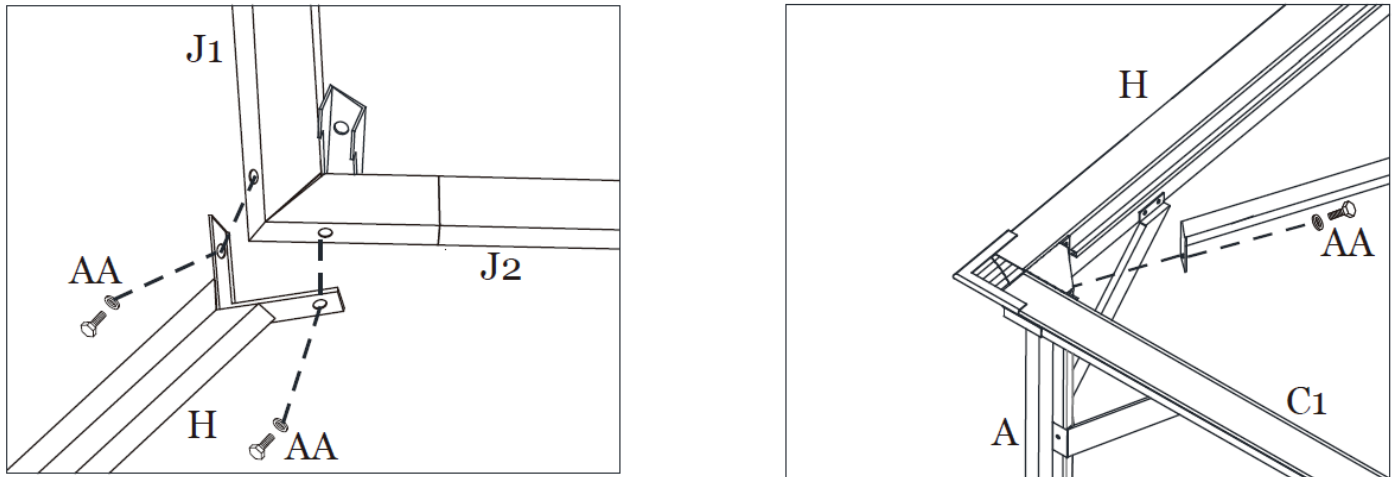

Figure 7-1
Step 7A: Assemble the Main Roof Corner Supports (H) to the Short Connector (J1) on the Main Roof Center Frame and then to the Corner Posts (A) using Bolts (AA). See Figure 7-1.